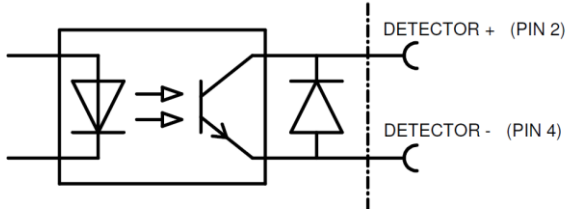

Figure 4, *Perfomaster* connections
- Connect the cable to the power supply as shown in figure 4.